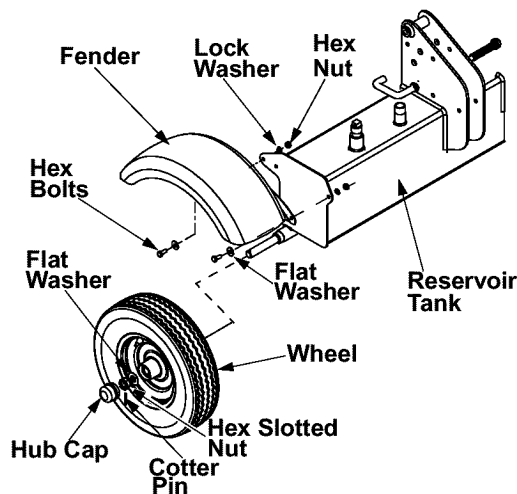

Figure 5
- Remove the cotter pin, hex slotted nut, and flat washer from each axle. See Figure 5.
- Place a flat washer on each axle and secure with hex slotted nut. See Figure 5.
- Insert cotter pins through slots in nuts and holes in axle and secure by bending the ends of the cotter pins in opposite directions. See Figure 5.
- Place hub caps in position on wheels and tap onto axle with a soft hammer or mallet. See Figure 5.
- Remove the hex nuts, lock washers, flat washers, and hex bolts from the side of tank. See Figure 5.